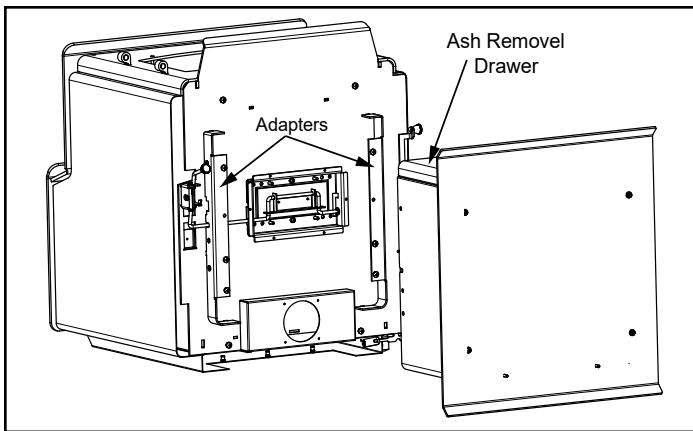

Figure 20.1
2. Slide pedestal over adapter on bottom of appliance and secure with bolts from heat shield (**Figure 20.1**).